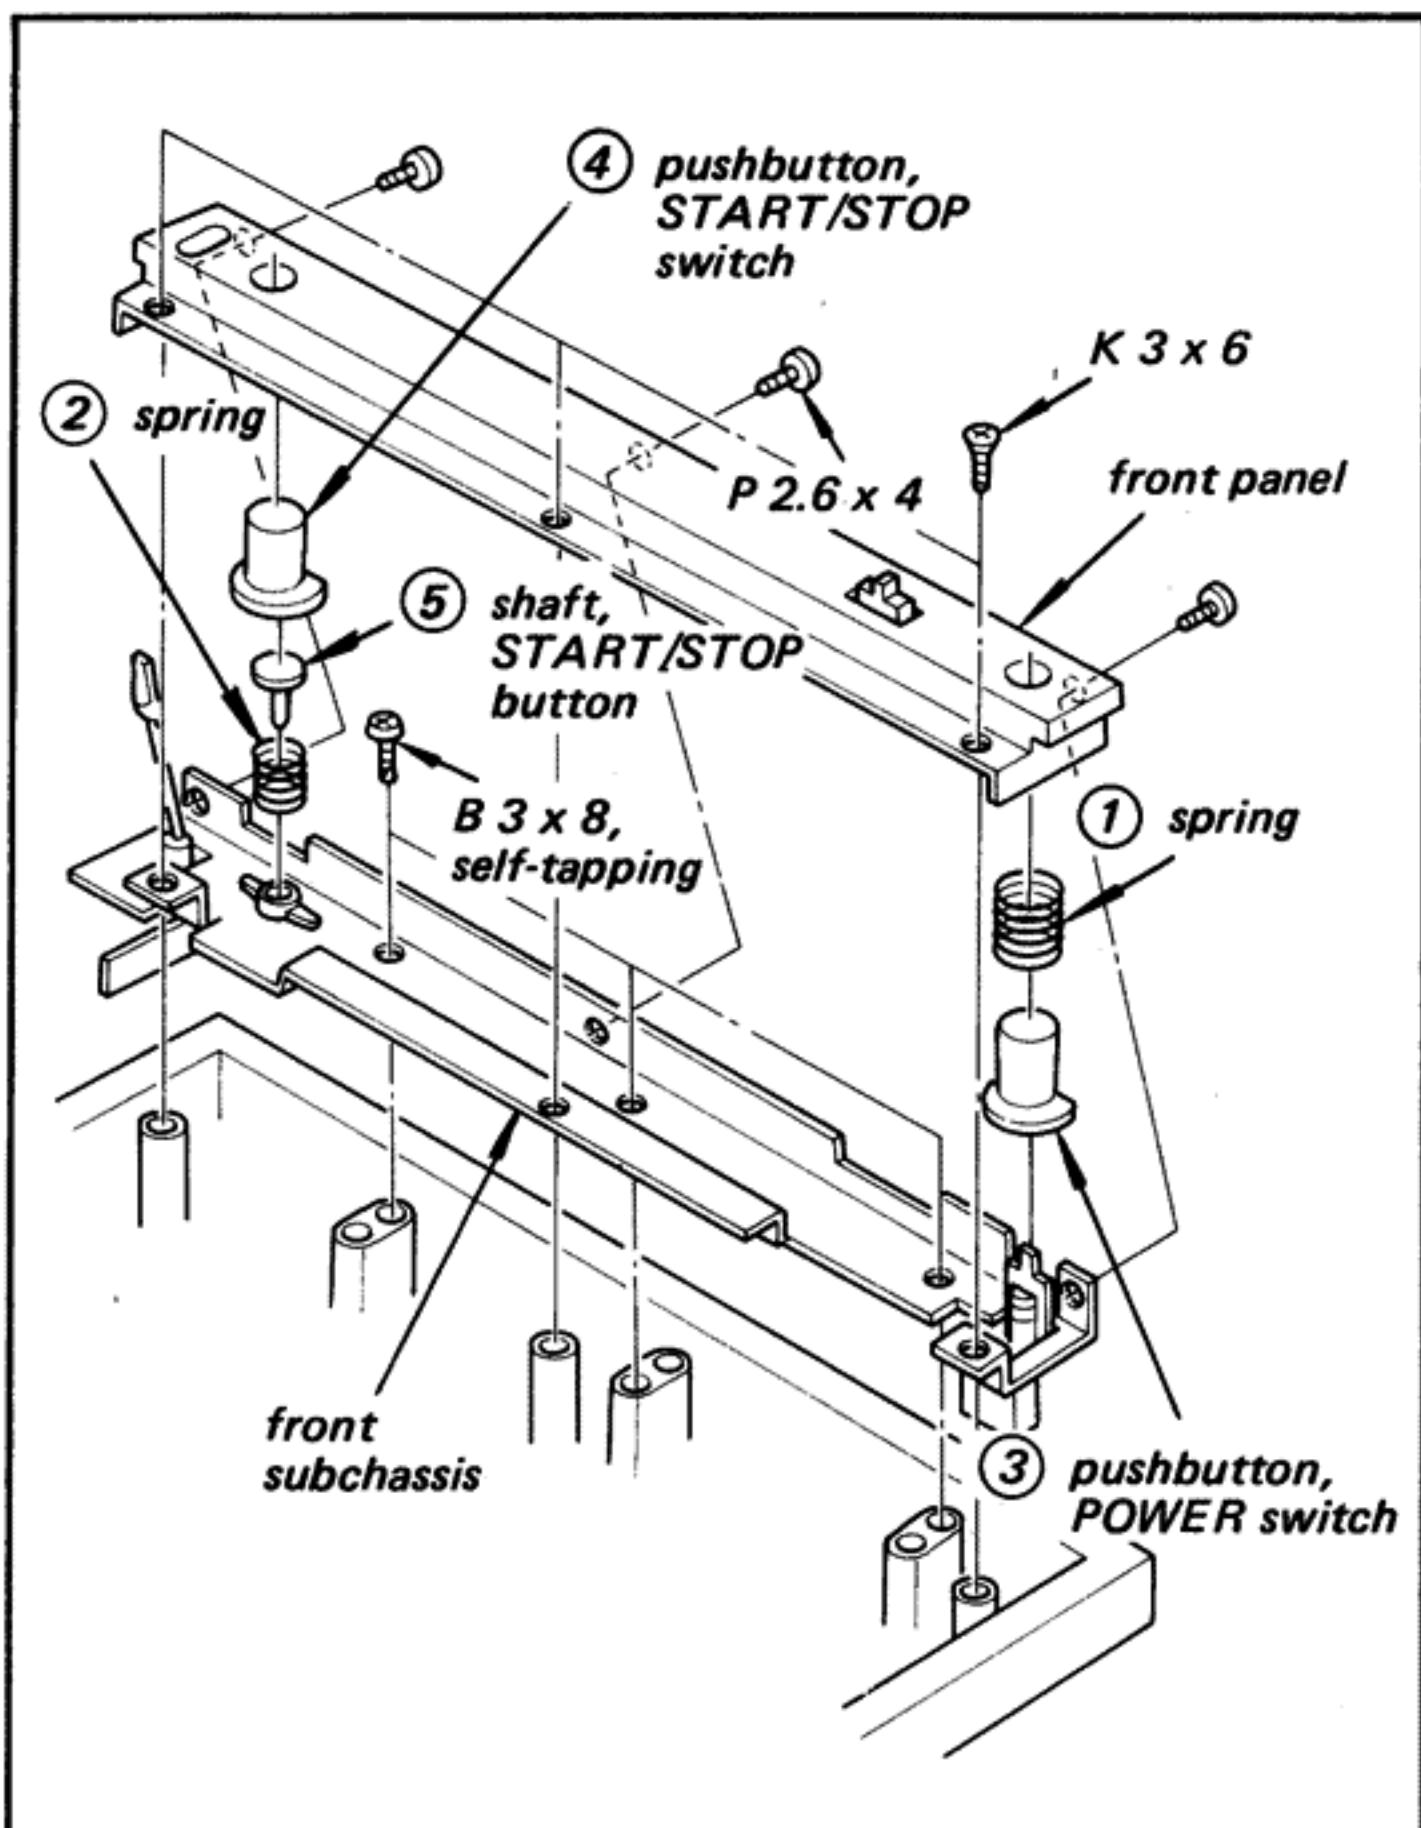

Fig. 2-12. Front panel/front subchassis removal
- Remove the front panel carefully by removing the three screws (P 2.6 x 4) and the three screws (K 3 x 6) shown in Fig. 2-12.
- Remove the springs ① ②, pushbuttons ③ ④, and START/STOP button shaft ⑤ shown in Fig. 2-12.
4. Remove the front subchassis by removing the three screws (B 3 x 8, self-tapping) shown in Fig. 2-12.